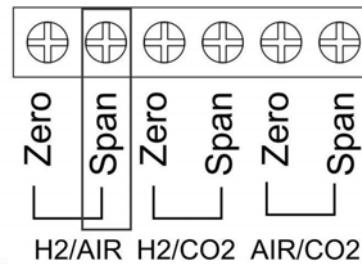

Figure 3-13: H2/AIR Span Trimpot
11. Adjust the display to read 100% $\pm 0.1\%$ using the H2/Air span trimpot. See Figure 3-13